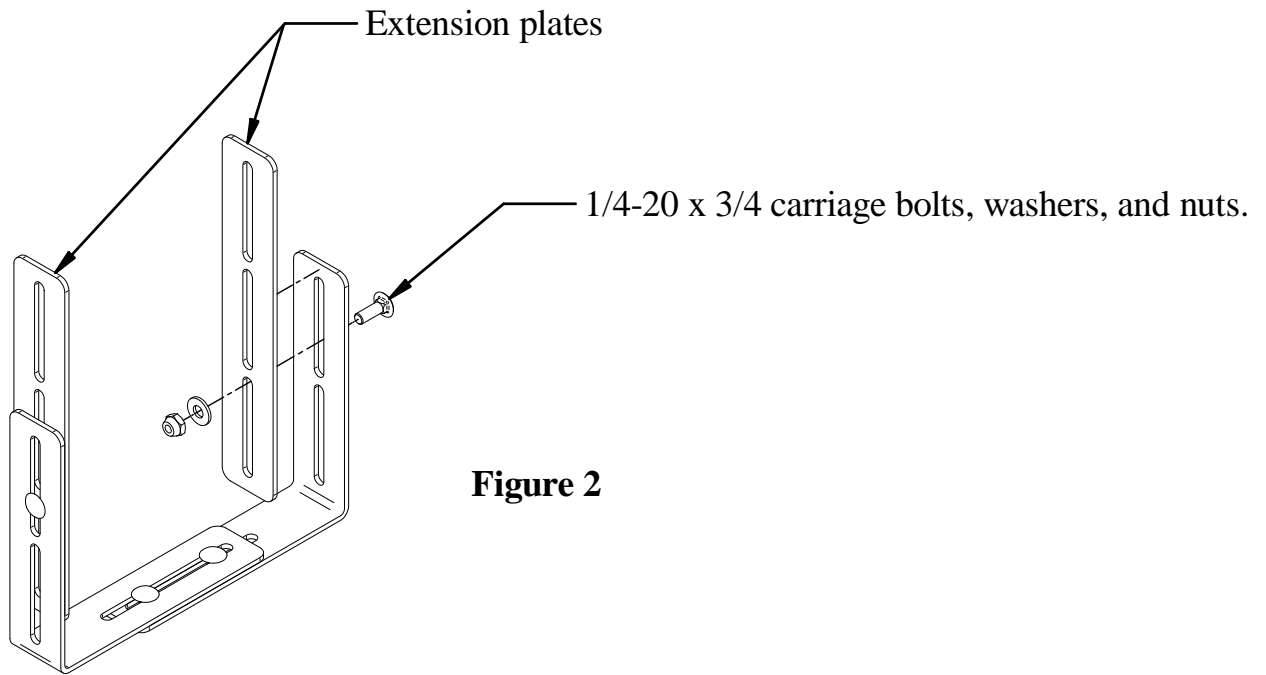

Figure 2
Step 2. Assemble the two extension plates, from the 7110-0161 Add On Bracket Set, to the inside of the vertical side legs of the StackMaster, StackAbout, FloorMaster, or FlexMaster products as shown in Figure 2. Temporarily use one carriage bolt, washer, and nut, that came with the add on bracket set, for each extension plate. Adjust the extension plates to the needed height before tightening.